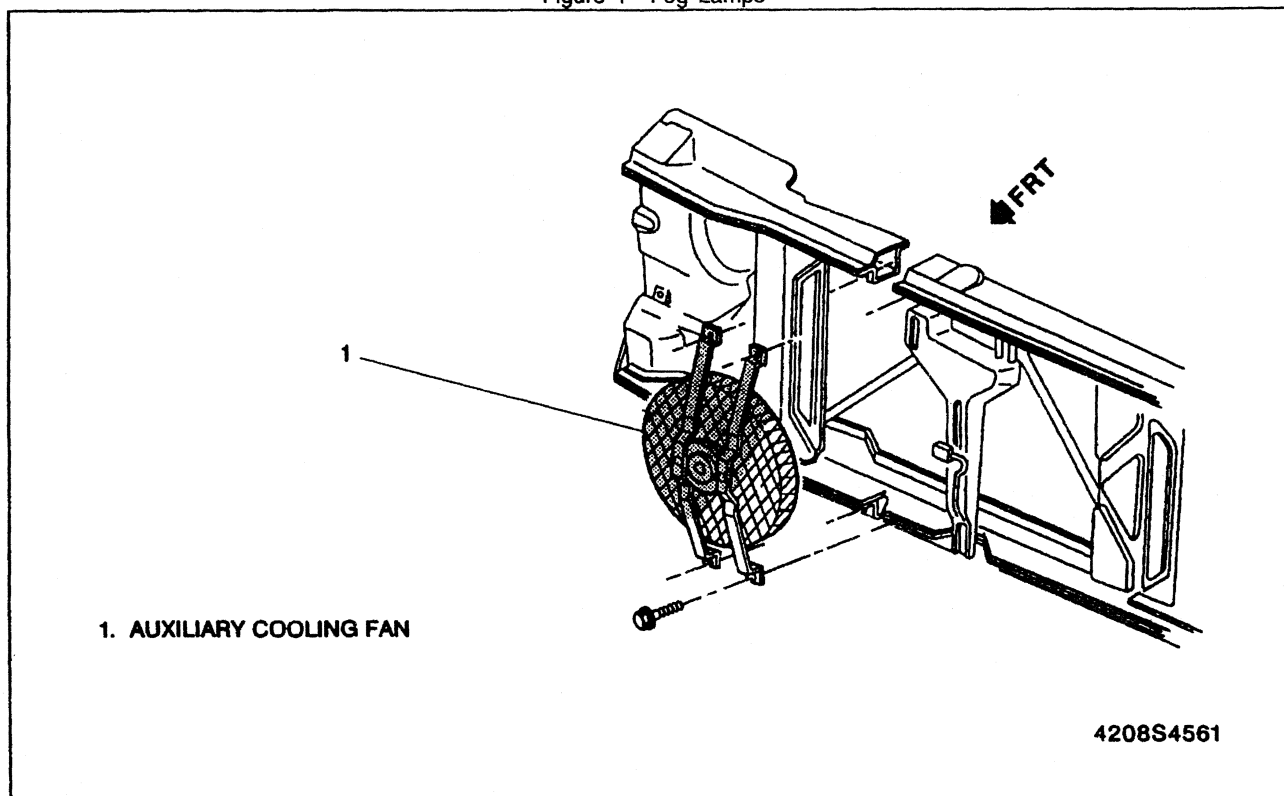

Figure 2—Auxiliary Cooling Fan
3. Search for the noise source, keeping fingers off the 2" probe. When checking for noise on wire, the best results will be achieved when the sniffer is placed parallel to the wire, see Figure 2.